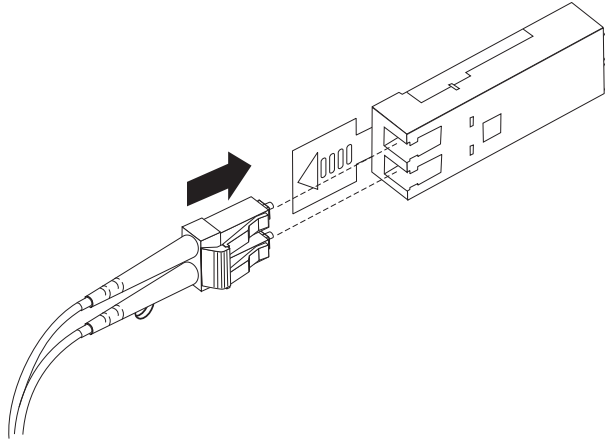

Figure 33. Inserting an LC-LC Fibre Channel cable into an SFP module
4. Carefully insert this end of the LC-LC cable into an SFP module that is installed in the DCS3700. The cable connector is keyed to ensure it is inserted into the SFP module correctly. Holding the connector, push in the cable until it clicks into place, as shown in Figure 33 on page 57.